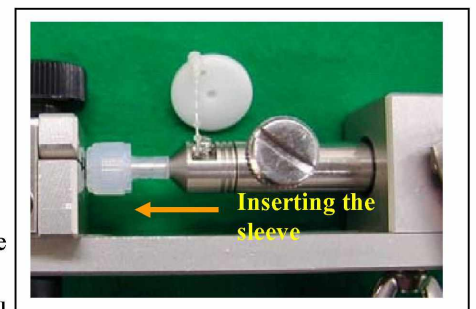

Fig. 45 - Inserting the sleeve
- Grip the lever, and the sleeve will be inserted into the tube (see Fig. 45).